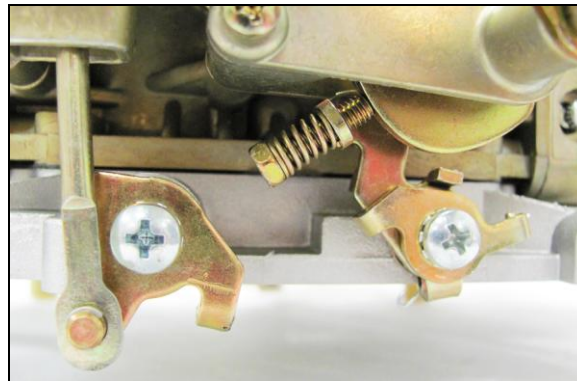

Figure 8
10. Once the shaft is installed, you may now assemble the fast idle cam lever and spring assembly (Figure 8). Also, attach the throttle return spring against its boss on the throttle body. Check for any binding in the shaft by opening and closing the lever.